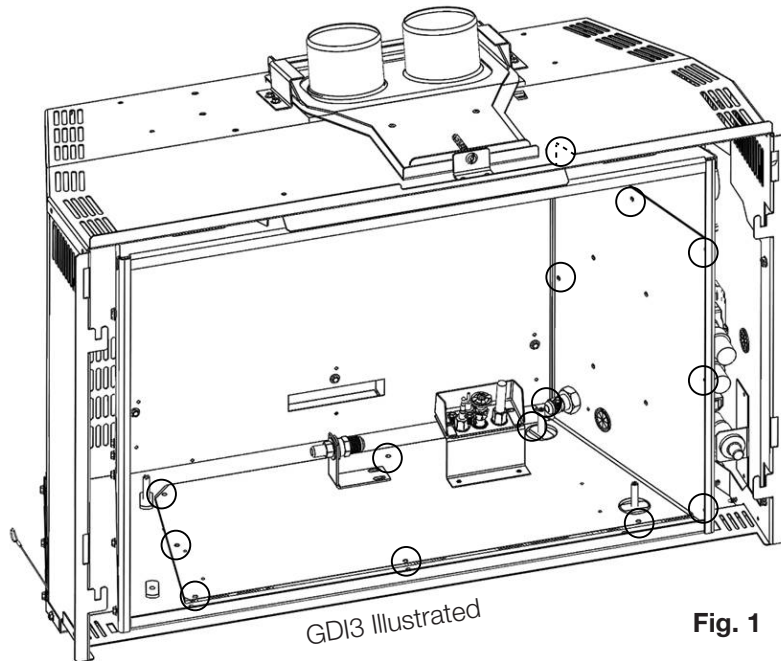

Fig. 1
- C. Remove the 4 screws that secure the lens frame (**Fig. 1**). This frame retains the glass lens. The lamp can now be accessed.
- D. Remove the 14 screws holding the valve train in place (**Fig. 1**).